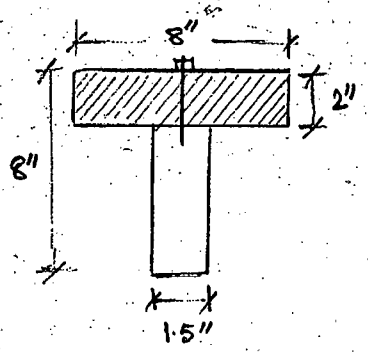

Figure 6
7. The beam shown in Figure 6 is comprised of two wooden planks. If it transmits a vertical shear of 720 lb and allowable shearing force per nail is 180 lb, what is the necessary spacing of the nails between the two planks to make the beam act as a unit? (14)